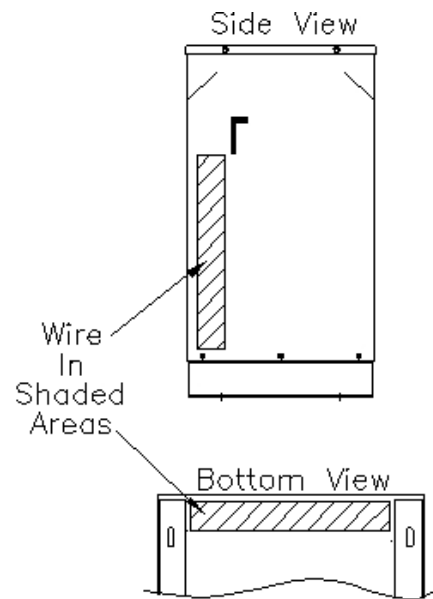

Figure 2 - Side & Bottom View of Ventilated unit
7. Route wires into enclosure using the predefined access holes or by creating holes as needed. On ventilated units the wires should enter the unit below the terminals and in front of the coil. See Figure 2